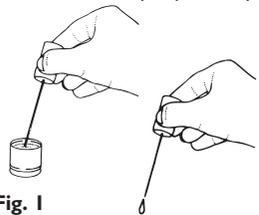

Fig. 1
**IMPORTANT** – Only apply small single drops of light machine oil to the places indicated in red. This is best achieved by making a simple oil “dropper” as illustrated in Fig. 1. Insert a straightened paper clip into a cork and use a bottle cap as a container for the oil. A small drop of oil can then be picked up by the dropper and applied in exactly the right place. Immediately wipe off any excess oil, especially from the locomotive and tender bodies. Only lubricate moving parts.